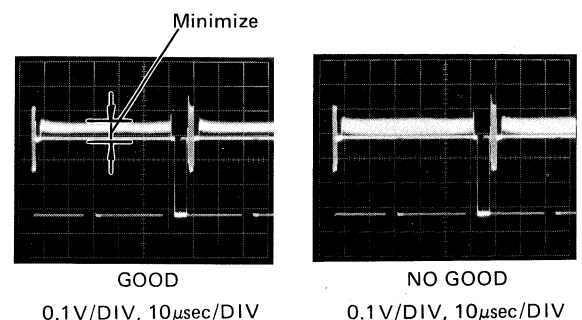

Fig. 4-2-28
- Adjust Bs V.PARA VR8 and Bs V.SAW VR9 so that the dark signal waveform is as flat as possible. (Fig. 4-2-28)